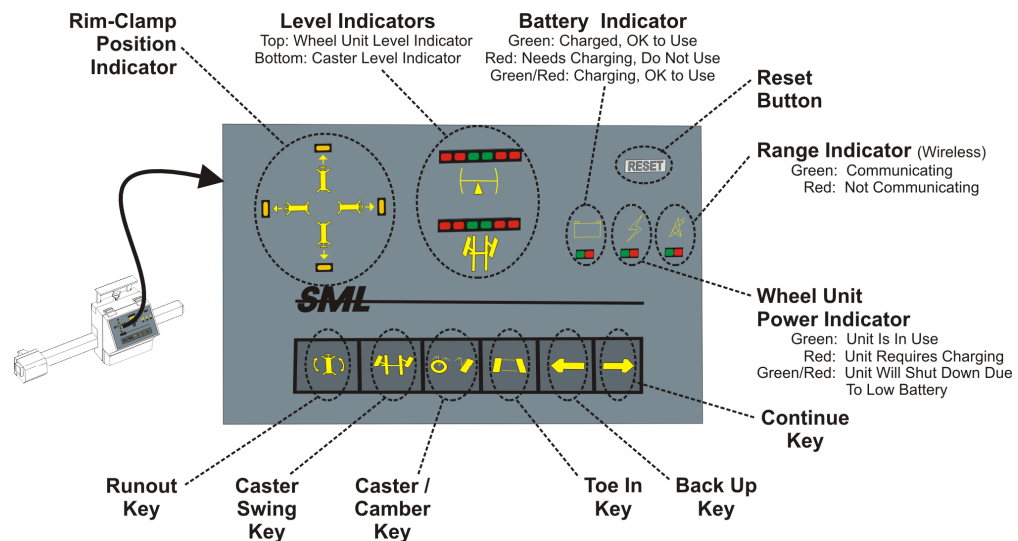

Figure 2-6. Wheel Unit – Operator Panel
2.7.2 Operator Panel. A flat panel, with built in touch pads and LED's, is illustrated and defined in Figure 2-6.
- 2.7.5.1 On the wheel unit's operator panel, there is a RED/GREEN LED display for the battery. These indicators are used to display the battery's status/health (Refer to Figure 2-6).
- 2.7.5.2 In wireless mode use the operator panel (Fig. 2-6) on the wheel unit and check for the following: